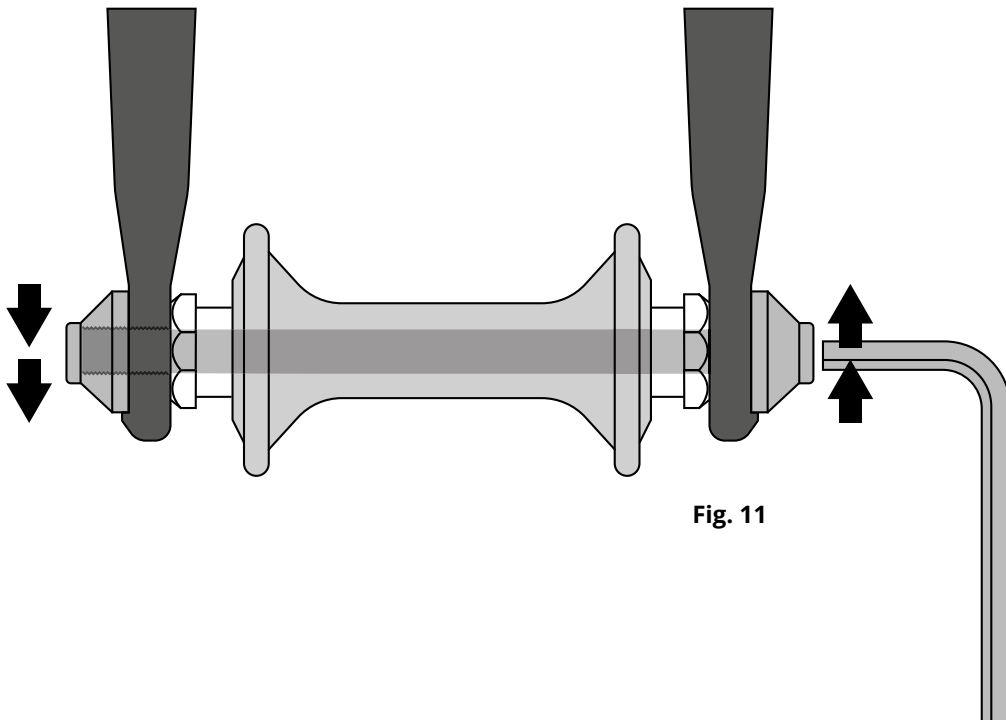
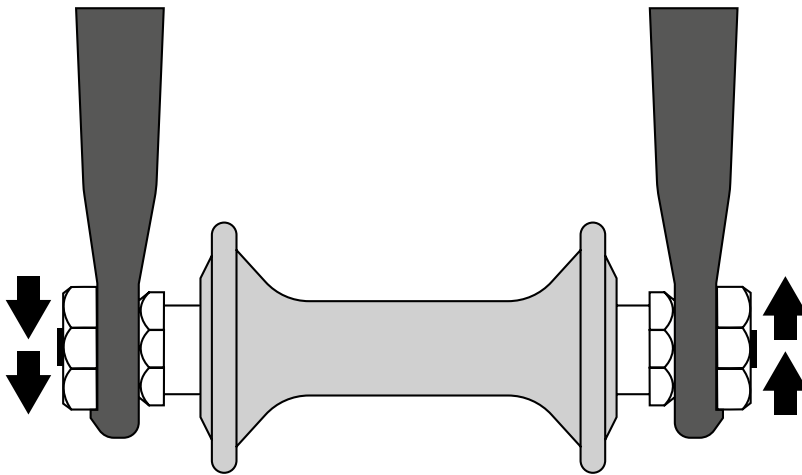

Fig. 11
Fig. 12
- 3. Some Ebike brakes, such as disc brakes (fig. 11) and linear-pull brakes (fig. 12), are extremely powerful. Take extra care in becoming familiar with these brakes and exercise particular care when using them.**
Most rim brakes have some form of quick-release mechanism to allow the brake pads to clear the tire when a wheel is removed or reinstalled. When the brake quick release is in the open position, the brakes are inoperative. Please contact **DENAGO** at cs@denago.com or call at **1-(877)-755-2453** or ask your dealer for all service to make sure that you understand the way the brake quick release works on your Ebike (see figs. 12, 13, 14 & 15) and check each time to make sure both brakes work correctly before you get on the Ebike.